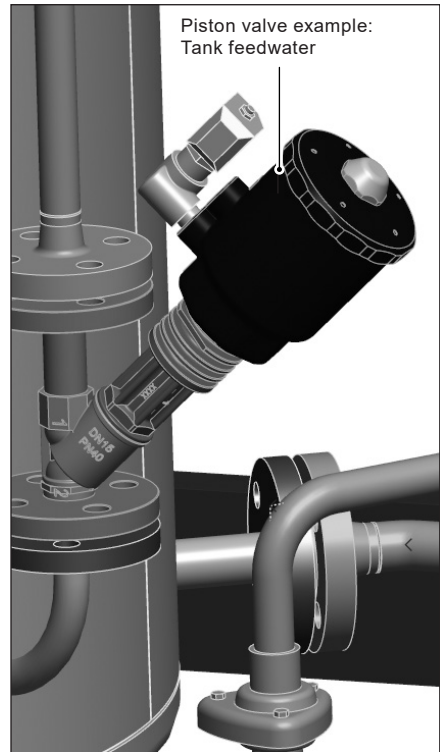

Fig. 24
5.4.12 Piston valves - Figure 24